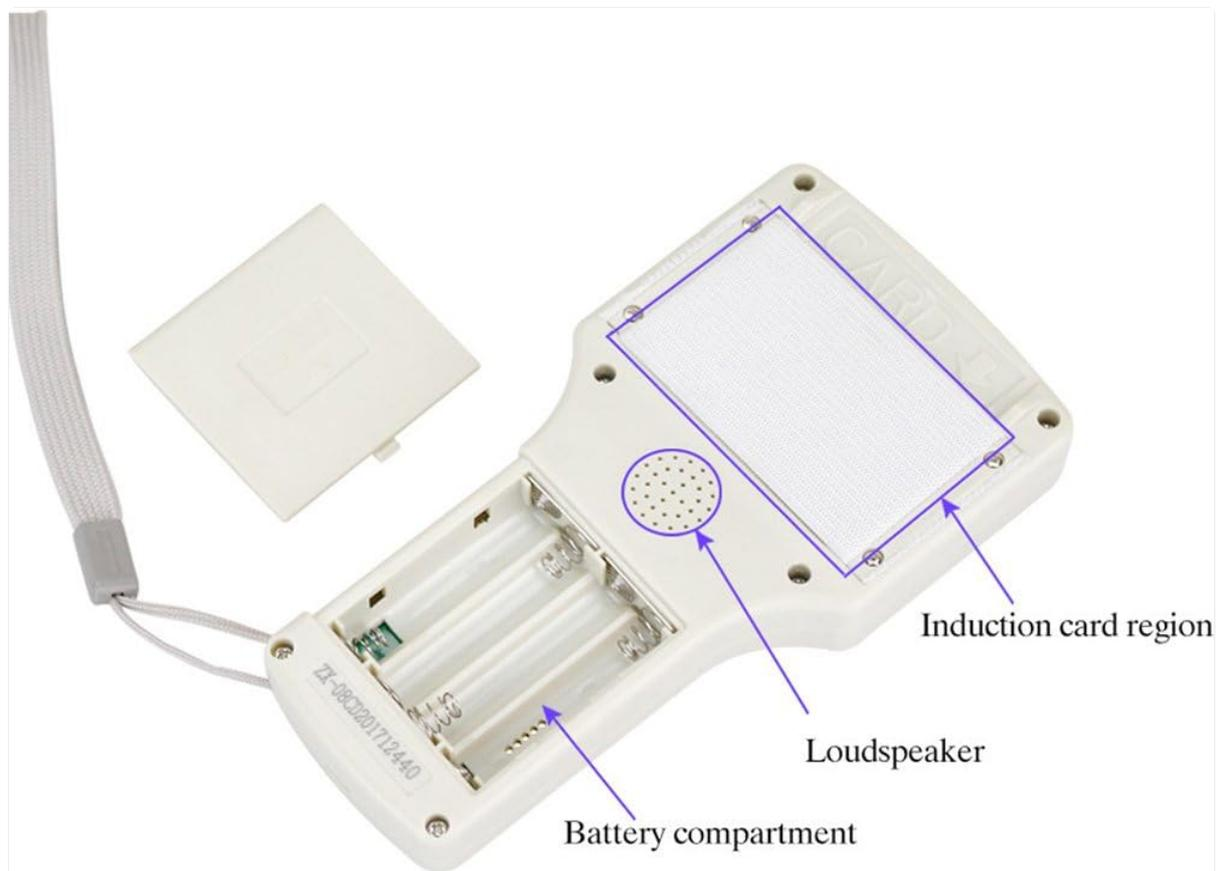

Figure 3.2: Back view showing battery compartment and induction card region.
1. Ensure batteries are correctly installed in the battery compartment (refer to Figure 3.2).